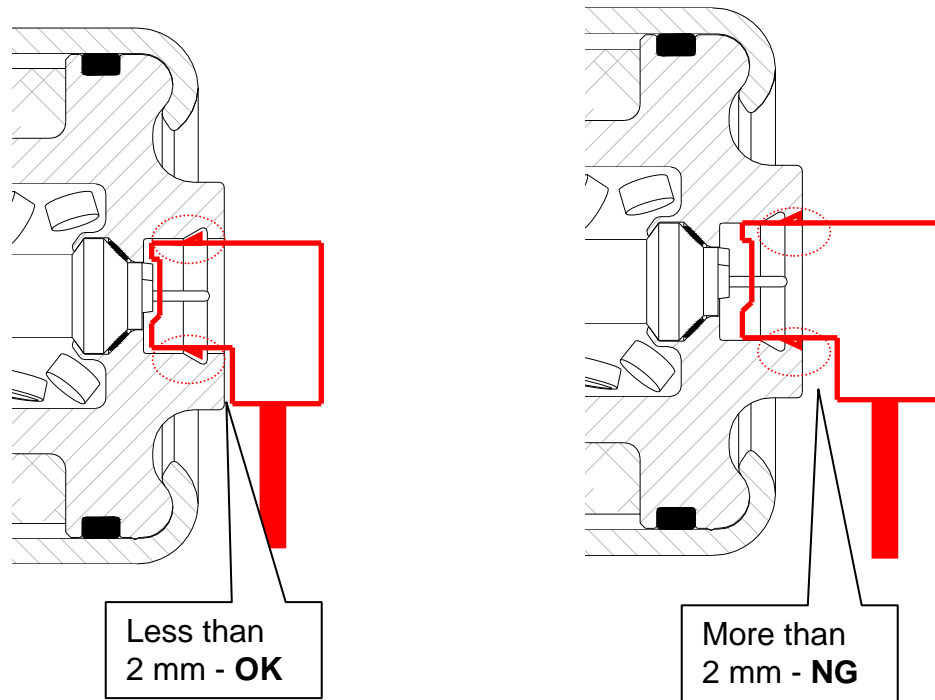

Figure M20
- Make sure the inflator connectors are fully engaged / seated (see Figure M20).